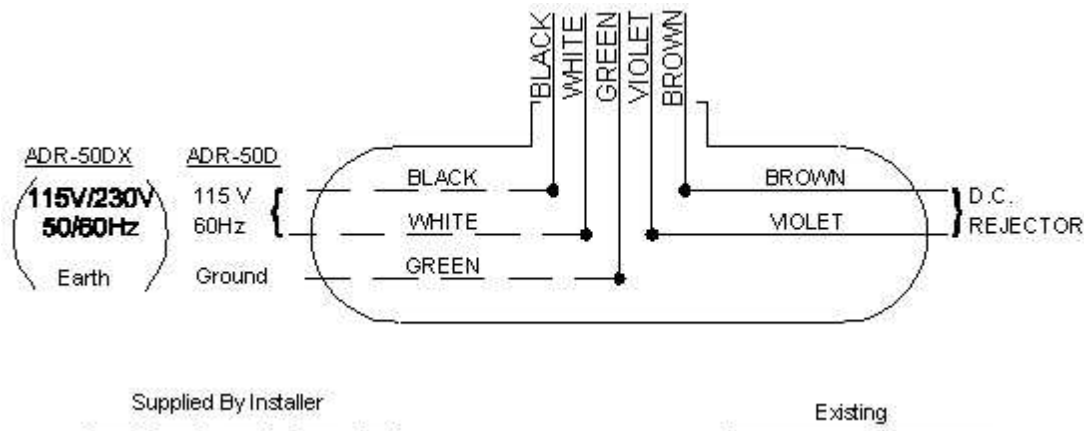

FIGURE 2.2
- 2.4.2. **ELECTRICAL INSTALLATION:** Bring power line with ground into the conduit junction box at the lower end of the pipe. Wire as shown in Figure 2-2. Connect the black wire (L-1) to the black wire, the white wire (L-2) to the white wire and the green wire (Ground) to green. Connect the Rejector wires (red and brown) to the corresponding wires in the conduit box.